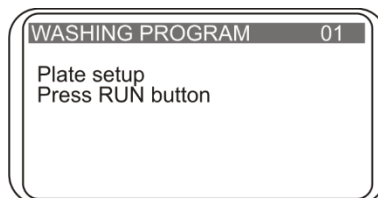

Figure 10. Manifold lowering depth identification
- 5.20. **Plate setup.** When installing a plate for the first time or when a plate of different type is used, setup the manifold needles lowering depth. Press the **Enter** key in the start mode, the following message appears on the display (fig. 10). To calibrate, press **Run/Stop** key. The manifold measures the depth of the plate well by touching the plate surface first and then the bottom of the well. The unit saves the difference of the measured values.